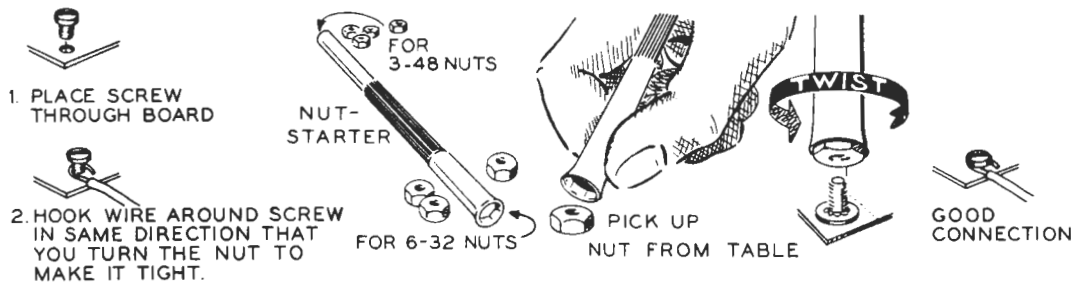

Figure 1
- ① (✓) Place the wires of the 8200 Ω (gray-red-red) resistor through the circuit board from the top. Fasten one wire of this resistor at (A) and the other wire at (B) with 3-48 screws, #3 lockwashers and 3-48 nuts. See Figure 1 on Page 3.
- ② (✓) Place a 3-48 screw through a clip and then through a battery spring. Mount this clip and battery spring at (C). Fasten the screw with a #3 lockwasher and a 3-48 nut.
- ③ (✓) Place the wires of the transistor through the circuit board from the top. The wires form a triangle pattern where they are connected to the transistor body. This pattern matches the three transistor wire holes in the circuit board. Fasten transistor wire #1 at (D) with a 3-48 screw, #3 lockwasher and 3-48 nut.
- ④ (✓) Fasten transistor wire #2 at (E) with a 3-48 screw, #3 lockwasher and 3-48 nut.
- ⑤ (✓) Place a 3-48 screw through one of the mounting holes at the bottom of the coil. Fasten this screw at (F) with a #3 lockwasher and a 3-48 nut. Use this screw to fasten transistor wire #3.
- ⑥ (✓) Place the wires of the capacitor through the circuit board.
- ⑦ (✓) Fasten the other side of the coil at (G) with a 3-48 screw, #3 lockwasher and 3-48 nut. Use the screw at (G) to fasten one wire of the capacitor.
- ⑧ (✓) Place a 3-48 screw through the other clip. Place this clip at (H) and fasten the screw with a #3 lockwasher and 3-48 nut. Use the screw at (H) to fasten the other wire of the capacitor.